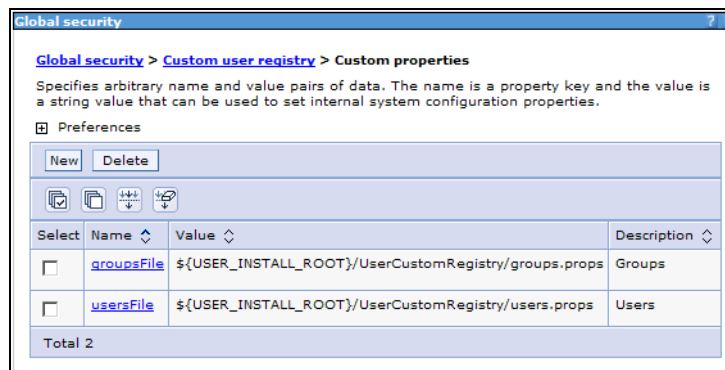

Figure 11-6 Custom registry properties
- Click *Custom properties*. Add two custom properties named `groupsFile` and `usersFile`, matching the code in the `FileRegistrySample` program. The two properties point to our files (Figure 11-6):